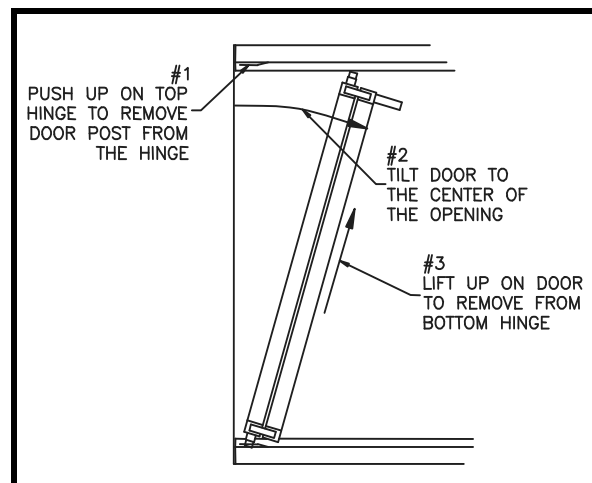

Figure 25: Door Removal
- Warning: NEVER use abrasive cleaners or clean when hot. Allow glass to cool before removal (see figure 25 for removal).